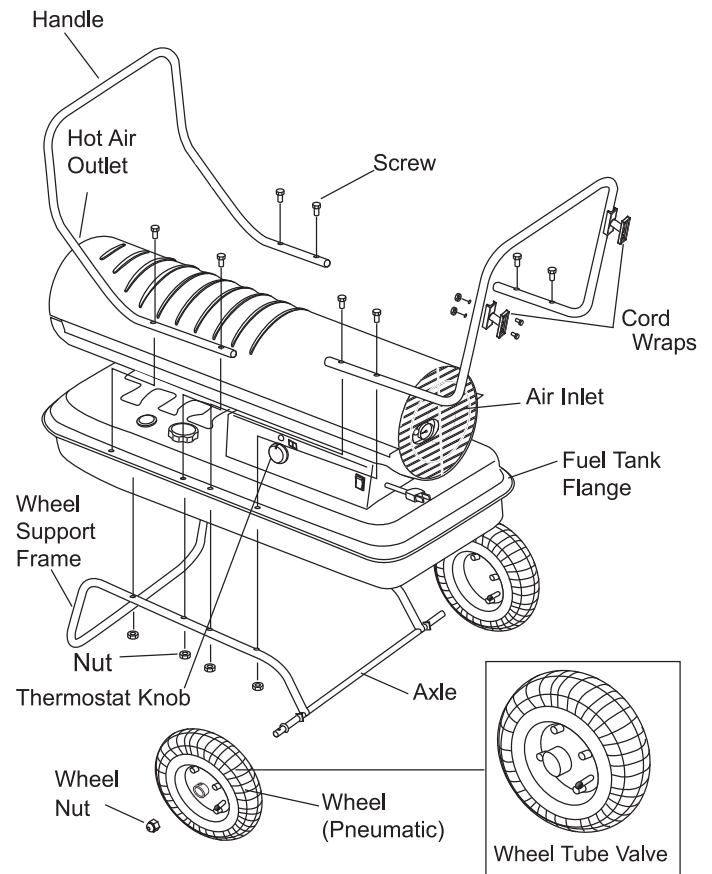

Figure 7. Assembly of Models MH-135T/190T/215T-KFA
1. Slide axle through holes in wheel support frame. Slide wheel bushings and flat washer (A) on to each end of axle.
2. Slide wheels on to each axle, being sure that the valve stem (if pneumatic) is to the outside (**see Figure 7**).
5. Take the front handle and align the mounting holes with the corresponding holes in the tank flange/wheel frame. Slide a screw (A) through the holes and loosely attach a nut. Repeat for the other 3 holes, then fully tighten all 4 screws and nuts.
1. Align holes in cordwrap with corresponding holes in rear handle. Insert screws (B) through holes, attach nuts and tighten (see **Figure 7**).